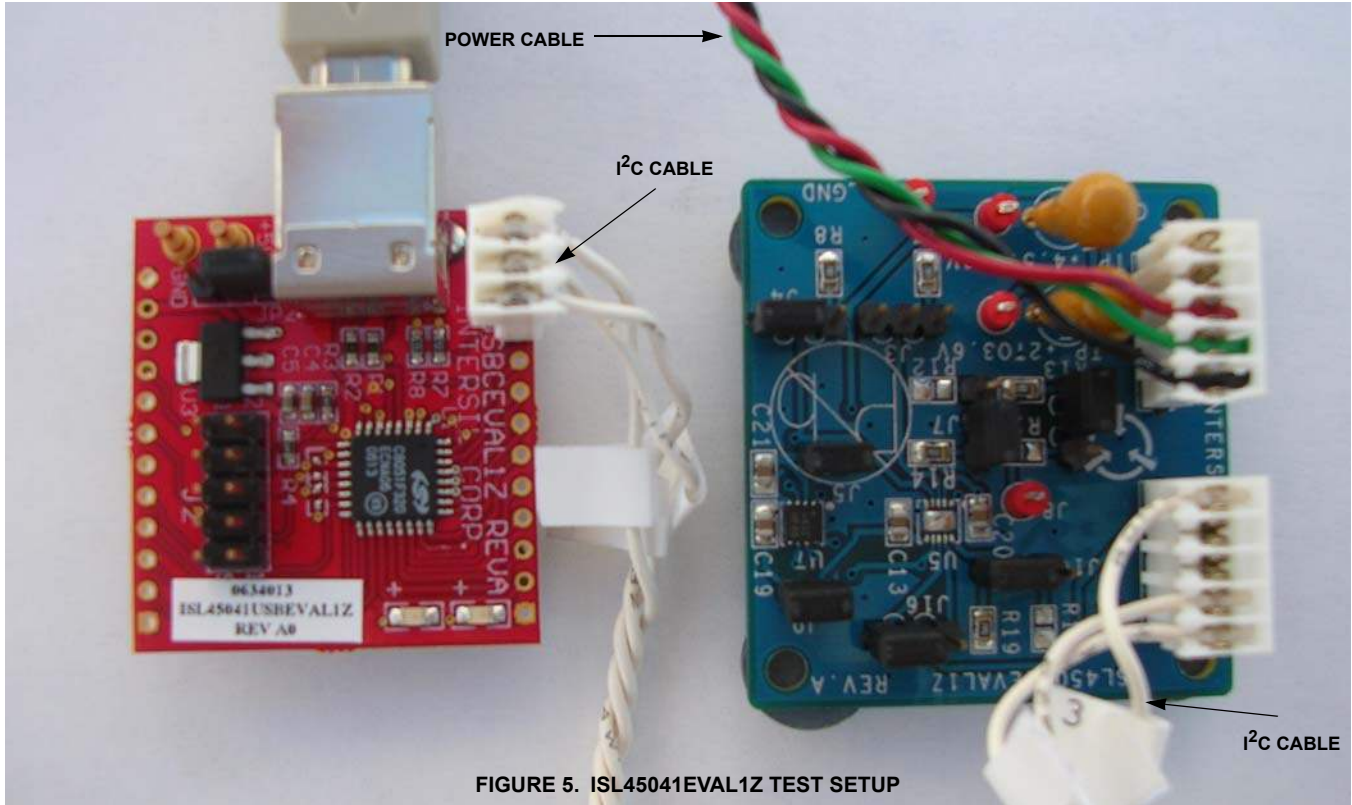

FIGURE 5. ISL45041EVAL1Z TEST SETUP
1. Connect the ISL45041EVAL1Z board to the Intersil USB controller board as shown in Figure 5. Note: Connect the I2C cable as shown in Figure 5.
3. Connect the power supply cable to the ISL45041EVAL1Z board. Note: Connect the power cable as shown in Figure 5. Turn on the power supplies to power up the ISL45041EVAL1Z board (make sure the cables are connected properly -- **RED = AVDD; GREEN = VDD; BLACK = GND**).